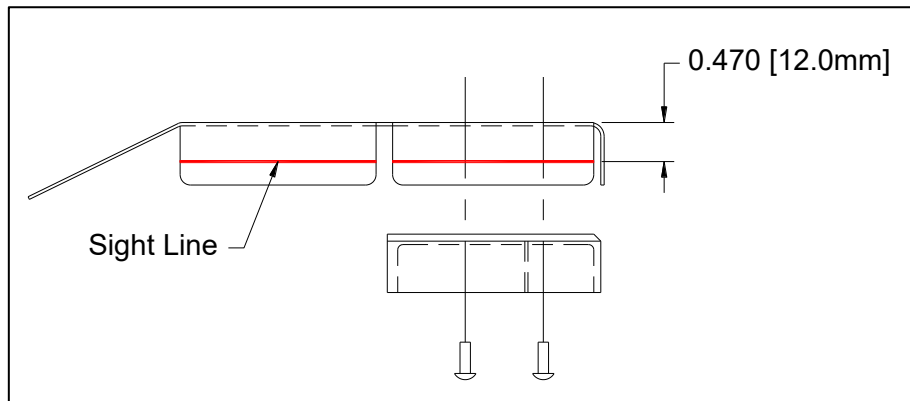

Figure 5: Mark Rib Section
- 13.4.4 Mark the lower and rear flanges of the new Rib 1 Section (GA8-950075-023) using a dark coloured fine line marker. Draw a line along the lower and rear flange 0.470 inch (12.0mm) from the outer face of each rib section. See Figure 5.